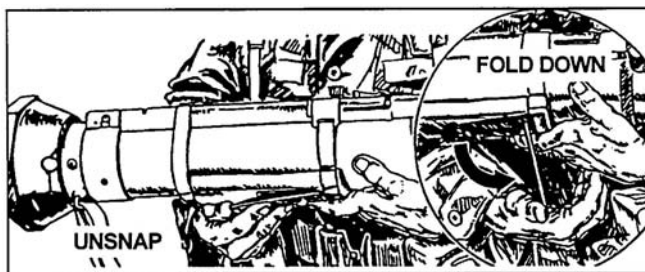

Figure 071-054-0001-4. Unsnapping the shoulder strap
- c. Unsnap and unfold the shoulder stop (figure 071-054-0001-4).